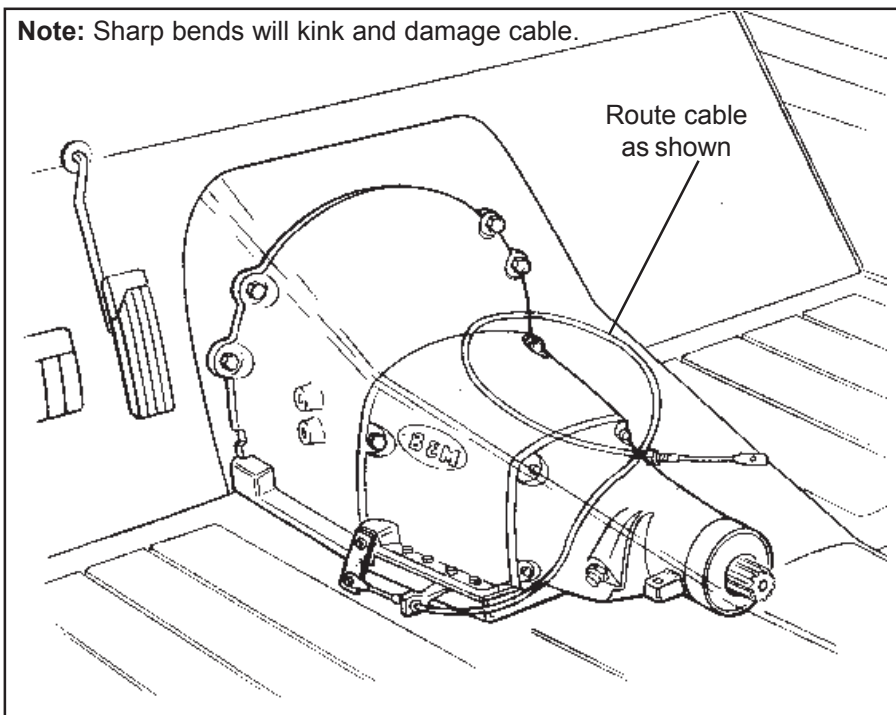

Figure 3
STEP 5. Route the shifter cable according to **figure 3** Avoid kinks and sharp bends and route the cable away from hot engine or exhaust parts.